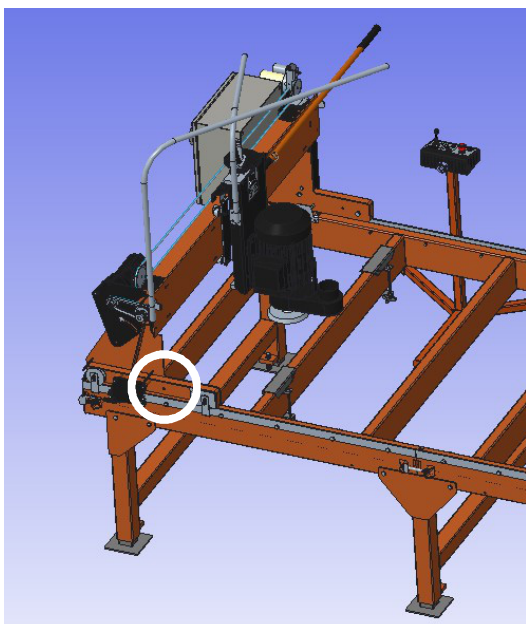

FIG. 18
**NOTE:** The cables are labeled “Feed” and “Cross Feed.” The Feed cable mounts on the side of the gantry. See FIG. 18. The Cross Feed mounts on the cross feed rope bracket. See FIG. 22.
3. Place a proximity (prox) switch and cable in the existing hole on the feed side of the gantry. See FIG. 18.